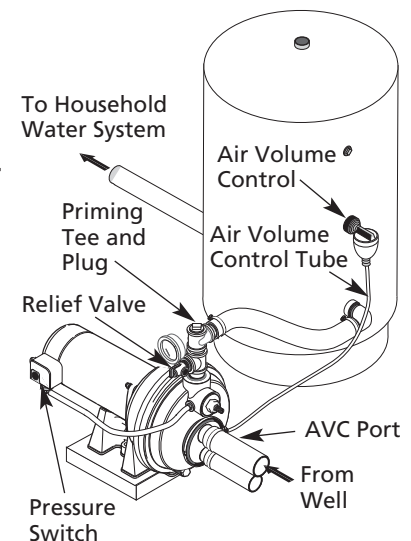

Figure 11 – Standard Tank Connections
STANDARD TANK CONNECTION (FIGURE 11)
4. Remove the 1/8" NPT pipe plug from the pump Air Volume Control (AVC) port (See Figure 11, page 11). Run tubing from the pump's AVC port to the port on the AVC mounted on the tank. See instructions provided with tank and AVC for details.